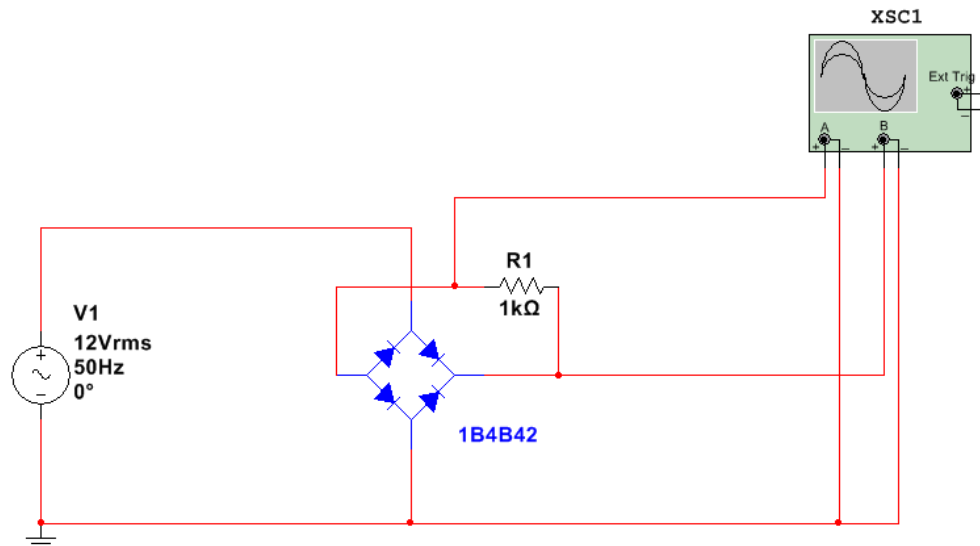

Figure 9. Bridge rectifier circuit.
Bridge rectifier is the most common circuit, which uses diode to single connectivity, is used to convert AC to DC. The bridge rectifier is composed by four diodes. And when input is the positive half of sine wave, two diodes are breakover getting positive output voltage. When input is the negative half of sine wave, another two turn on, as the diodes are reverse, so the output is to be positive. Figure 9 is a bridge rectifier circuit.
1. Build the bridge rectifier circuit drawn in figure 9,  $R=300\Omega$ , 10 Vpp input signal with no offset. Draw the input waveform and output waveform (use function A-B on the oscilloscope) in following box.